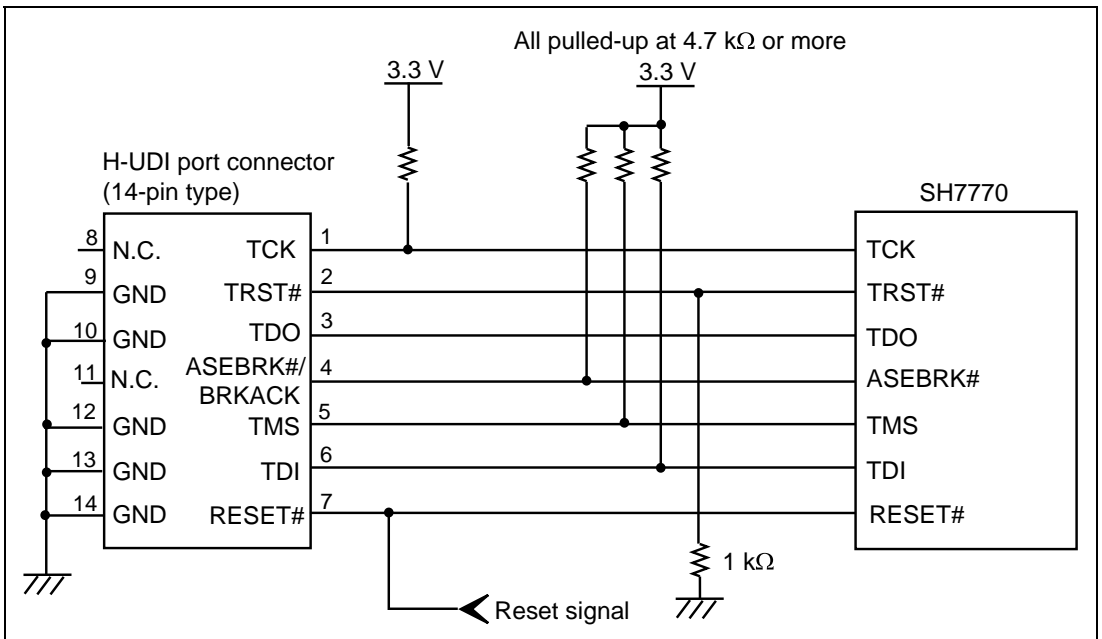

Figure 1.4 Recommended Circuit for Connection between the H-UDI Port Connector and MPU when the Emulator is in Use (14-Pin Type)
Figure 1.4 shows a recommended circuit for connection between the H-UDI and AUD port connectors (14 pins) and the MPU when the emulator is in use.
3. The resistance values shown in figure 1.4 are reference.
When the circuit is connected as shown in figure 1.4, the switches of the emulator are set as SW2 = 0 and SW3 = 0. For details, refer to section 3.8, Setting the DIP Switches, in the Debugger Part of the SuperH™ Family E10A-USB Emulator User's Manual.